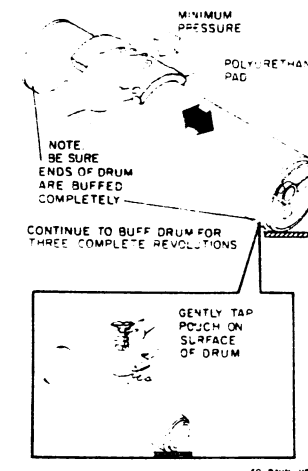

Figure 9. Lubricating the Drum
- APPLY A THIN LAYER OF ZINC STEARATE ON ENTIRE SURFACE OF DRUM BY SOFTLY TAPPING DUSTING POUCH ON SURFACE OF DRUM (FIGURE 9).